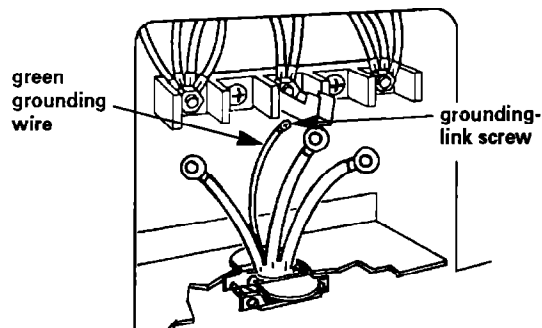

Figure 5
8. Connect the green grounding wire from power supply cord to the range using the grounding-link screw. **The grounding wire must be attached first and must not contact any other terminal.** See Figure 5.